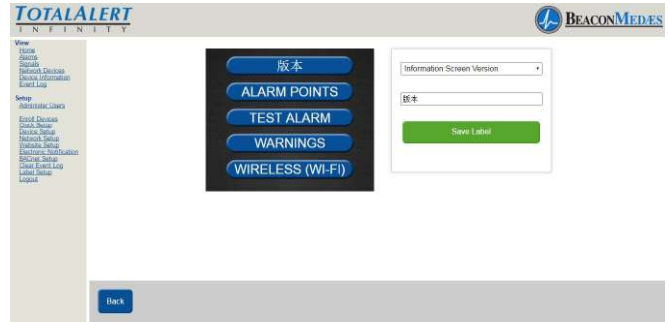

Figure 249
19. To setup Information Screen from the pull down menu, Choose “Information Screen Version”. Then input the non-latin language character for “Version” in the writable tab. (See Figure 249)